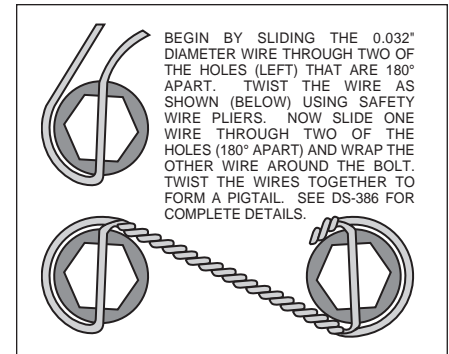

Figure 3. Safety Wire Diagram
- The flat spindle/caliper mounting bracket (1) should be installed first with clean, dry threads on the mounting bolts. Install the bracket on the back side of the spindle by sliding bolt (2) through the bracket (1) and into the upper hole of the spindle upright boss. Torque bolt (2) to 140 ft-lb. Slide bolt (3) through lower spindle “ear”, through the bracket (1), washer (4), and secure with nut (5). Torque bolt (3) to 77 ft-lb. The bracket must tighten squarely against the side of the spindle body. Inspect for interference from casting irregularities, machining ridges, burrs, etc.
- With the larger I.D. side of the rotor (6) facing away from the hat (7), bolt rotor (6) to hat (7) through the backside of the rotor using bolts (9), and washers (8). Torque bolts (9) in an alternating sequence to 85 **in-lb**. Safety wire bolts (9) using standard 0.032 inch diameter stainless steel safety wire as shown in Figure 3. Please refer to Wilwood’s data sheet DS-386 (available at www.wilwood.com/pdf/ds386.pdf) for complete safety wire installation instructions. Slide the rotor/hat assembly onto the spindle. Check to be sure the hat seats squarely against the hub. Install a couple of lug nuts (finger tighten) to keep the rotor/hat assembly in place while continuing with the installation.